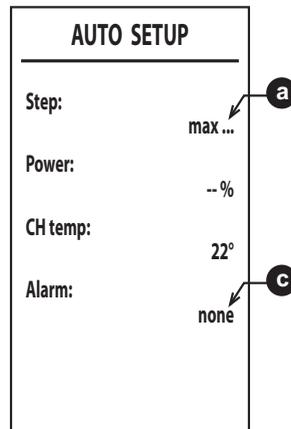

fig. 53
6. After ignition, the burner goes to heating at the various powers (max, med, min) indicated by point **a** (fig. 53).
8. If the ignition sequence described in point "6" is not successful, the message **max\_err** at point **a** and an error code at point **c** will appear (fig. 53).